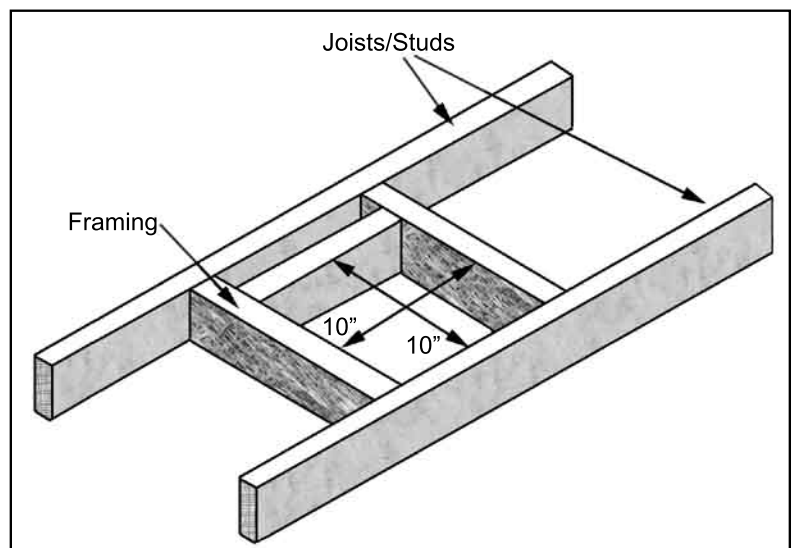
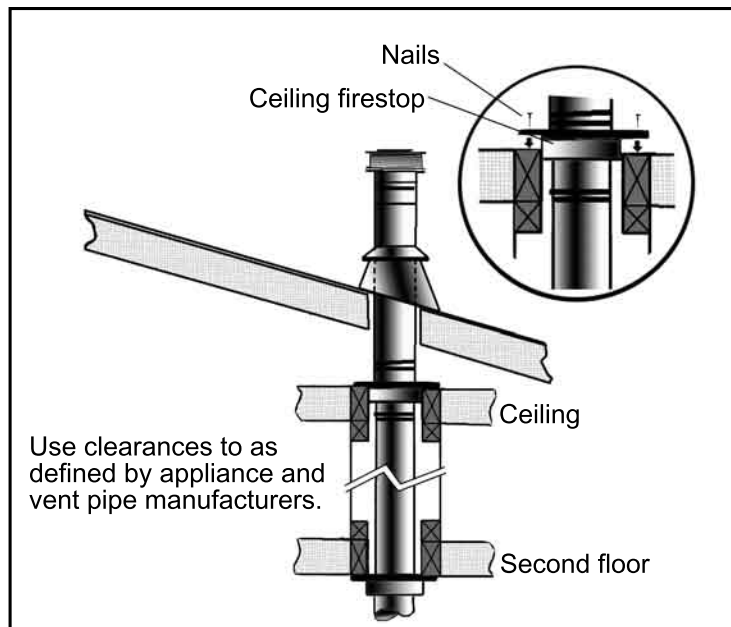

Figure 19. Vent Framing Through Wall/Ceiling
**Figure 25: Use of Wall Straps.**
A 10" (254 mm) x 10" (254 mm) frame (see Figure 19) will assure the proper support and spacing for the vent pipe as it passes through the wall. Installations in Canada require that a wall thimble be used for passing through walls and ceilings. All sealing and vapour barriers must comply with local building codes.
**Step 3.** With the pipe in the correct position and attached to the fireplace, mark the wall for a 10 inches (25.4 cm) x 10 inches (25.4 cm) square hole (see Figure 19). The center of the hole should match the center line of the horizontal pipe. Cut and frame the hole in the exterior wall where the vent will be terminated. If the wall being penetrated is made of a non-combustible material (i.e. masonry or concrete) a 7 inches (17.8 cm) hole is acceptable.
**Step 3.** To install the Round Support Box/Wall Thimble in a flat ceiling, cut a 10 inch (25.4 cm) square hole in the ceiling, centered in the hole drilled in Step 2. Frame the hole as shown in Figure 19.
- (1) If an offset is necessary in the attic to avoid obstructions, it is important to support the vent pipe every 3 feet (914 mm), to avoid excessive stress on the elbows, and possible separation. Wall straps are available for this purpose (see Figure 25).
- (2) When ever possible, use 45° degree elbows instead of 90° degree elbows. The 45° degree elbow offers less restriction to the flow of flue gases and intake air.
- (3) For multi story installations; a ceiling firestop is required at the second floor, and any subsequent floors (see Figure 26). The opening should be framed to 10" (254 mm) x 10" (254 mm) inside dimensions, in the same manner as shown in Figure 19.
- (4) Any occupied areas above the first floor, including closets and storage spaces, which the vertical vent passes through, must be enclosed. The enclosure may be framed and sheet-rocked with standard building materials. However consult the appliance manufactures installation instructions for the minimum allowable clearance between the outside of the vent pipe, and the combustibile surfaces of the enclosure. Do not fill any required air spaces with insulation.